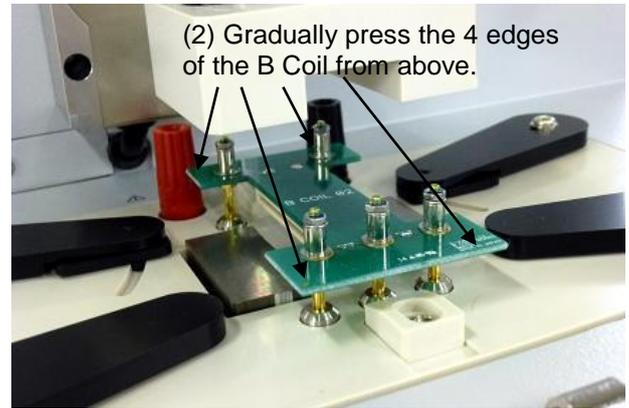

Fig. 4-10 Attaching a B coil
- (2) When attaching the provided B Coil 01 or 02, insert the plug of the B Coil into the B Coil jack and push the four edges of the B Coil from above so that it touches the B coil holder (See Fig. 4-10).